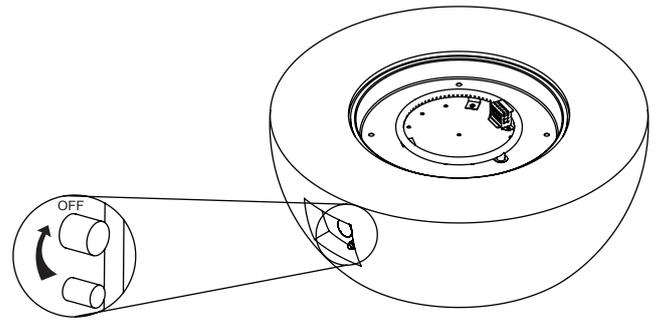

Figure 2
2. Ensure the gas control knob is in the “OFF” position before proceeding (see Figure 2).